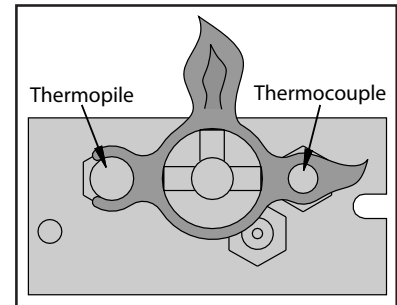

Figure 3. Pilot Flame
1. Turn off the gas to the fireplace. **If not recently done, remove the glass and let the unit air out for at least five (5) minutes to clear out any gas.** Turn on gas to the heater.
2. Be sure there is no burner media in the protected pilot area of the burner pan. Start the pilot by pressing the gas control knob (Figure 5) and turning it to PILOT. Turn the gas control knob to pilot and push in, press the piezo ignitor several times until the pilot light starts. Hold the gas control knob in for at least 30 seconds once lit. Check that the pilot has fully engulfed the thermocouple assembly (see Figure 3). The pilot should now stay lit on its own.